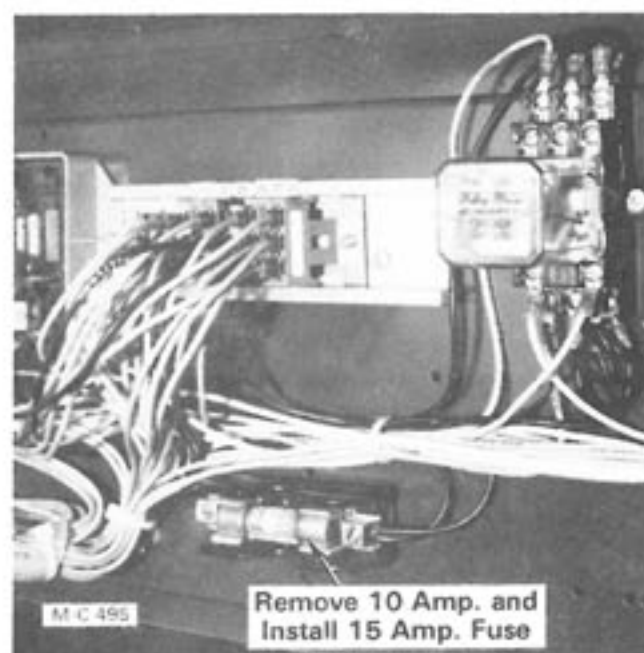

Figure 15
4. Remove the 10 amp. fuse in the middle control cabinet and replace it with the 15 amp. fuse furnished, see Figure 15. This fuse protects the dryer 115 volt control circuit.